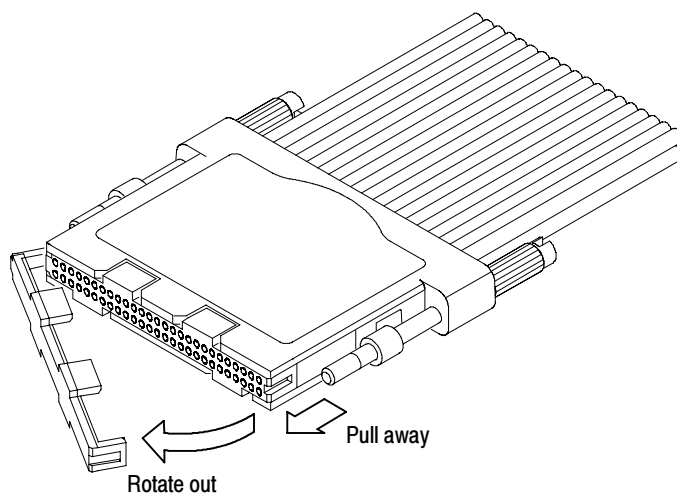

Figure 35: Replacing the cLGA clip
1. Gently pull one side of the clip away from the probe head, as shown in Figure 35, and then remove the entire clip.